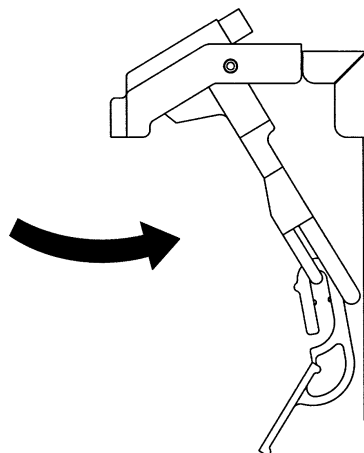

Fig. 10
- b) Allow the unit to cycle into the freeze mode. This occurs when the pump motor starts to supply water upwards, through the supply tube. After 1-2 minutes in freeze, move the bin switch paddle fully to the right See Fig. 10.